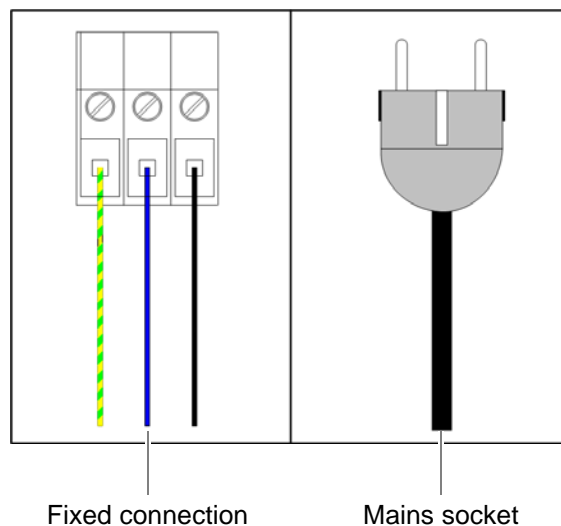

Figure 5.17 V_{AC} voltage supply – connection variants
Figure 5.17 shows the possible connection variants for the V_{AC} - voltage supply
- Connect the power supply cable(s) at installed rectifier modules – depending on the connection variant – with the voltage source, see Figure 5.17 on page 112.